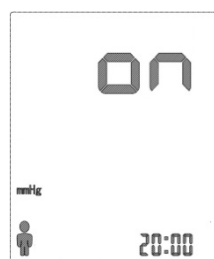
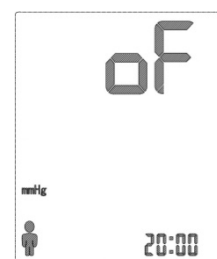

Fig 8
Fig 9
- a) Continues the broadcast setting, press the **【M】** button will automatically turn on or off the broadcast system as shown on Fig 8 or Fig9.